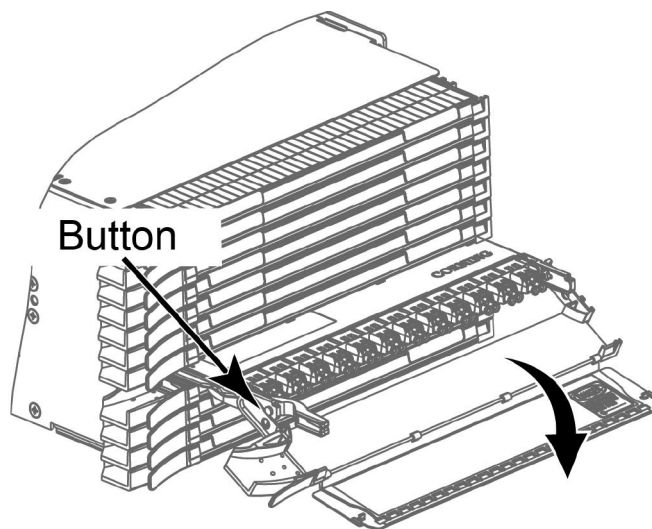

Figure 64
Step 1: Press latch on right side of cassette and pull cassette out to detent position (Figure 64).
Step 3: Open the handle cover (Figure 64 right).
- Step 3: Press buttons on each side of the cassette and lower the handle as shown in Figure 64.